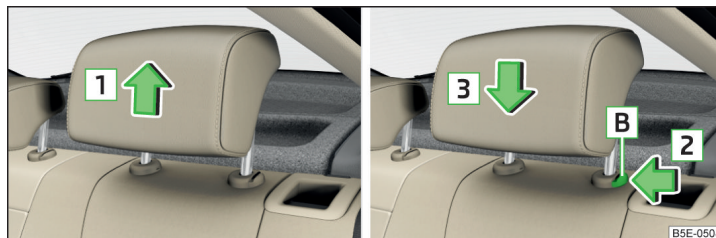

Fig. 72 Rear head restraints: Move up / move down
- › Grasp the restraint and move **upwards** in the direction of **1** » Fig. 72.